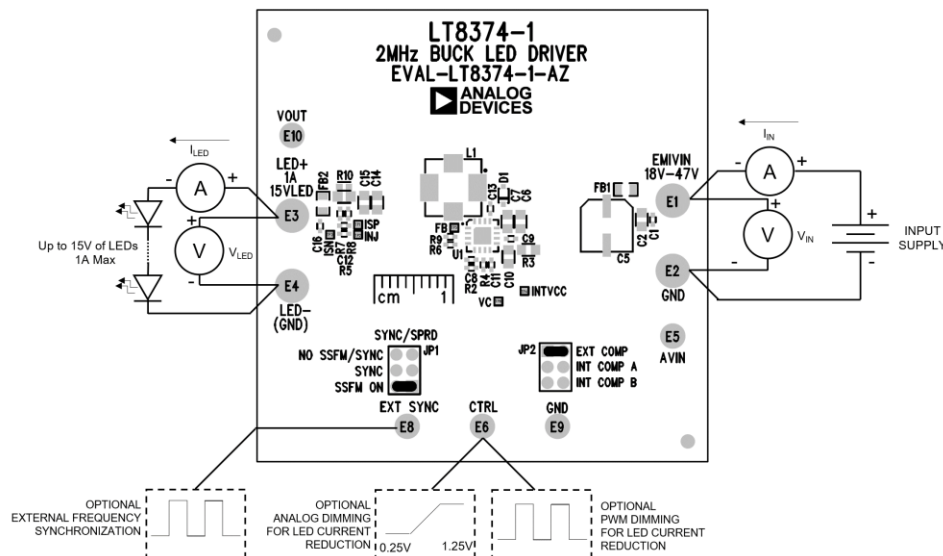

Figure 1. EVAL-LT8374-1-AZ Board Connections
Demonstration circuit EVAL-LT8374-1-AZ is easy to set up to evaluate the performance of the LT8374-1. See Figure 1 for proper measurement equipment setup and use the following procedure:
1. With power off, connect an input power supply between the EMIVIN and GND turrets. Connect a string of LEDs that will run with forward voltage less than or equal to 15V at 1A between the LED+ and LED- turrets on the PCB as shown in Figure 1.